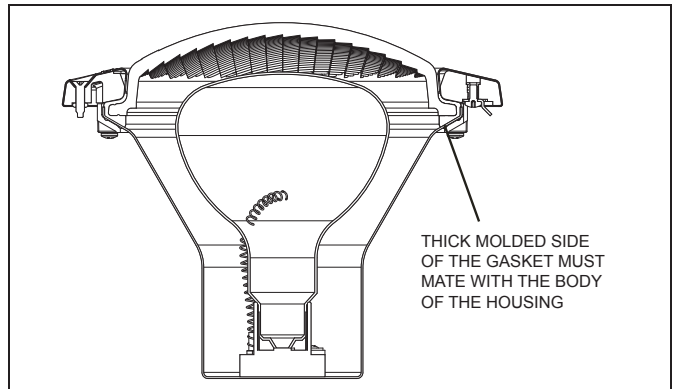

Figure 5. Cross Section of Jandy Pool White Light
- b. While holding the fixture upright, place the glass lens with the gasket on top of the fixture. Please note that the lens gasket is not symmetrical. Therefore, it must be installed correctly so that the lens can seal to the fixture housing. Place the gasket on the lens so that the thick molded side of the gasket will mate with the housing when the lens is installed. See Figure 5.